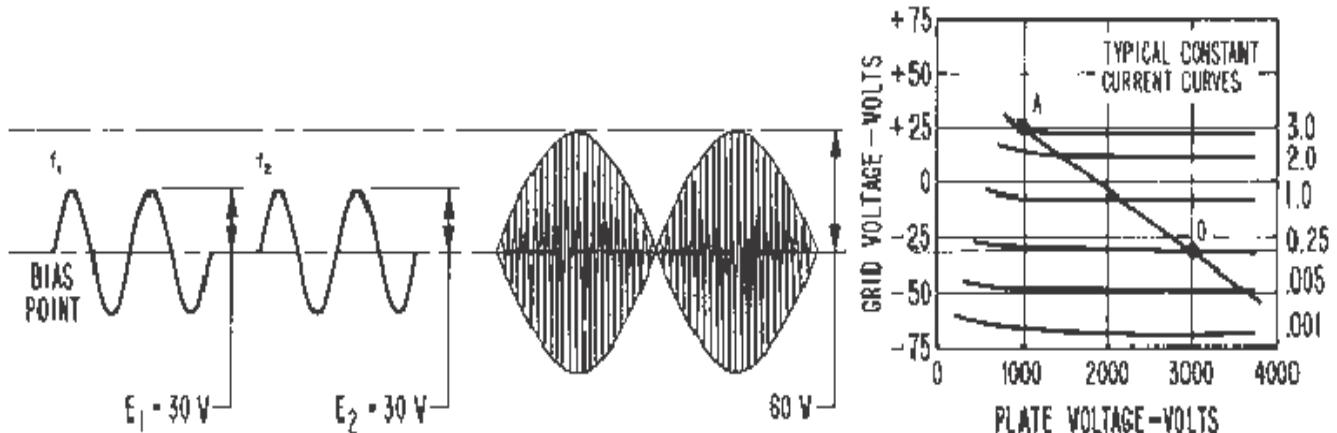

Figure 2. Two-Equal tone condition.
3. To drive the amplifier to the same PEP output with a two-equal tone Signal, the drive signal voltage for each tone must be 1/nth ($n = \text{number of tones}$) the amplitude of the single tone signal. For a **Two-Equal Tone Signal** the two frequencies (f_1 and f_2) are equal in amplitude but slightly different in frequency. As a result, when they are exactly in phase, the two crest voltages add directly to produce the crest of the two-tone envelope. When the two frequencies are exactly out of phase, then the cusp of the two-tone envelope results (**Figure 2**). Note that the voltage amplitude at the crest of the resultant two-equal tone envelope is equal to that of the single-tone envelope and therefore the tube is driven to the same point "A" on the operating line in each case. If the tube is driven to the same peak anode current and the same peak anode voltage swing by different exciting signals, then the Peak Envelope Power Output for both signals is the same.